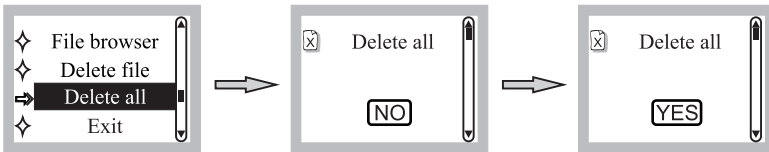

Fig. 26
- (3) Delete All: Press **▶||** to enter the “Delete all” screen. Press **◀◀** or **▶▶** to select “NO” or “YES”. Press **▶||** to confirm, Fig. 26.